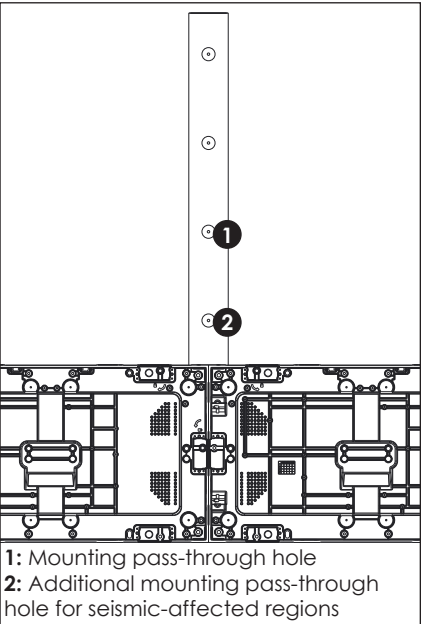

Figure 3: Attach Tube
3. Fill the required hole(s) in the tubes. Refer to **Figure 3**. In seismic-affected regions, two holes per panel height must be filled. In all other regions, only one hole per panel height is required. Refer to the contract-specific Shop Drawing for details on how many holes to fill.